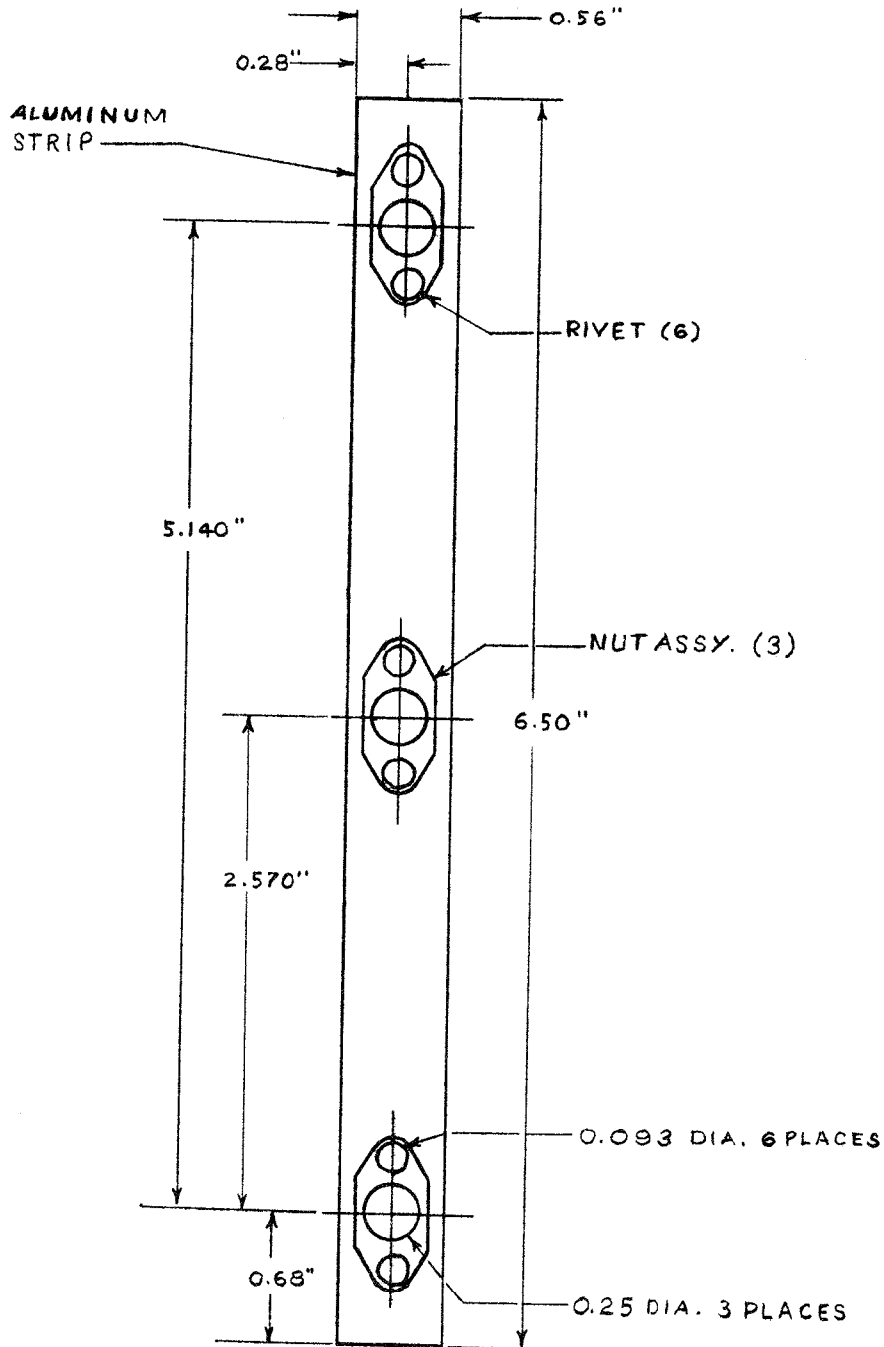

Figure 1
- a. Cut aluminum strip to dimensions shown on Figure 1 and deburr.**